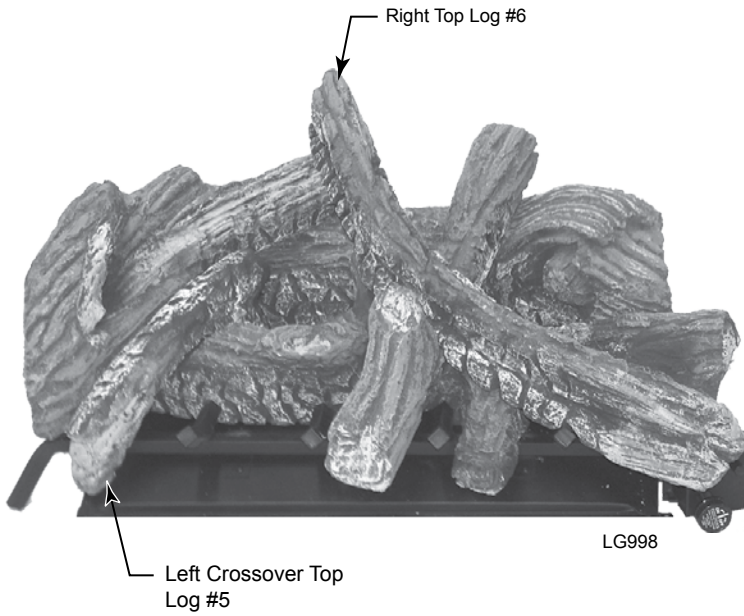

**Figure 36**
3. Place left top log (#3) on left end of bottom front and back logs. *Figure 36*
4. Place center crossover log (#4) across middle of bottom front and back logs. *Figure 36*